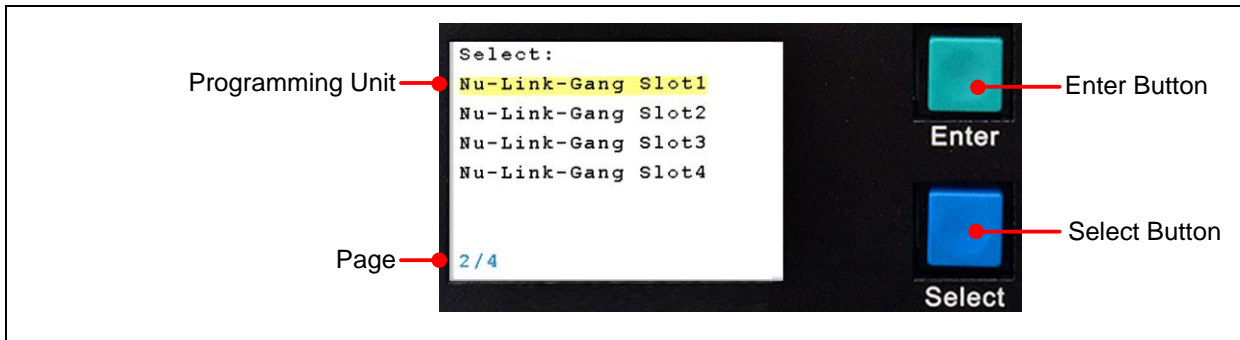

Figure 3-8 Page 2 - Programming Unit Selection Page
- Page 2: Programming unit selection page as Figure 3-8. Press Select button to choose the unit. The chosen unit is high-lighted in yellow. Press Enter button to go to the next page.